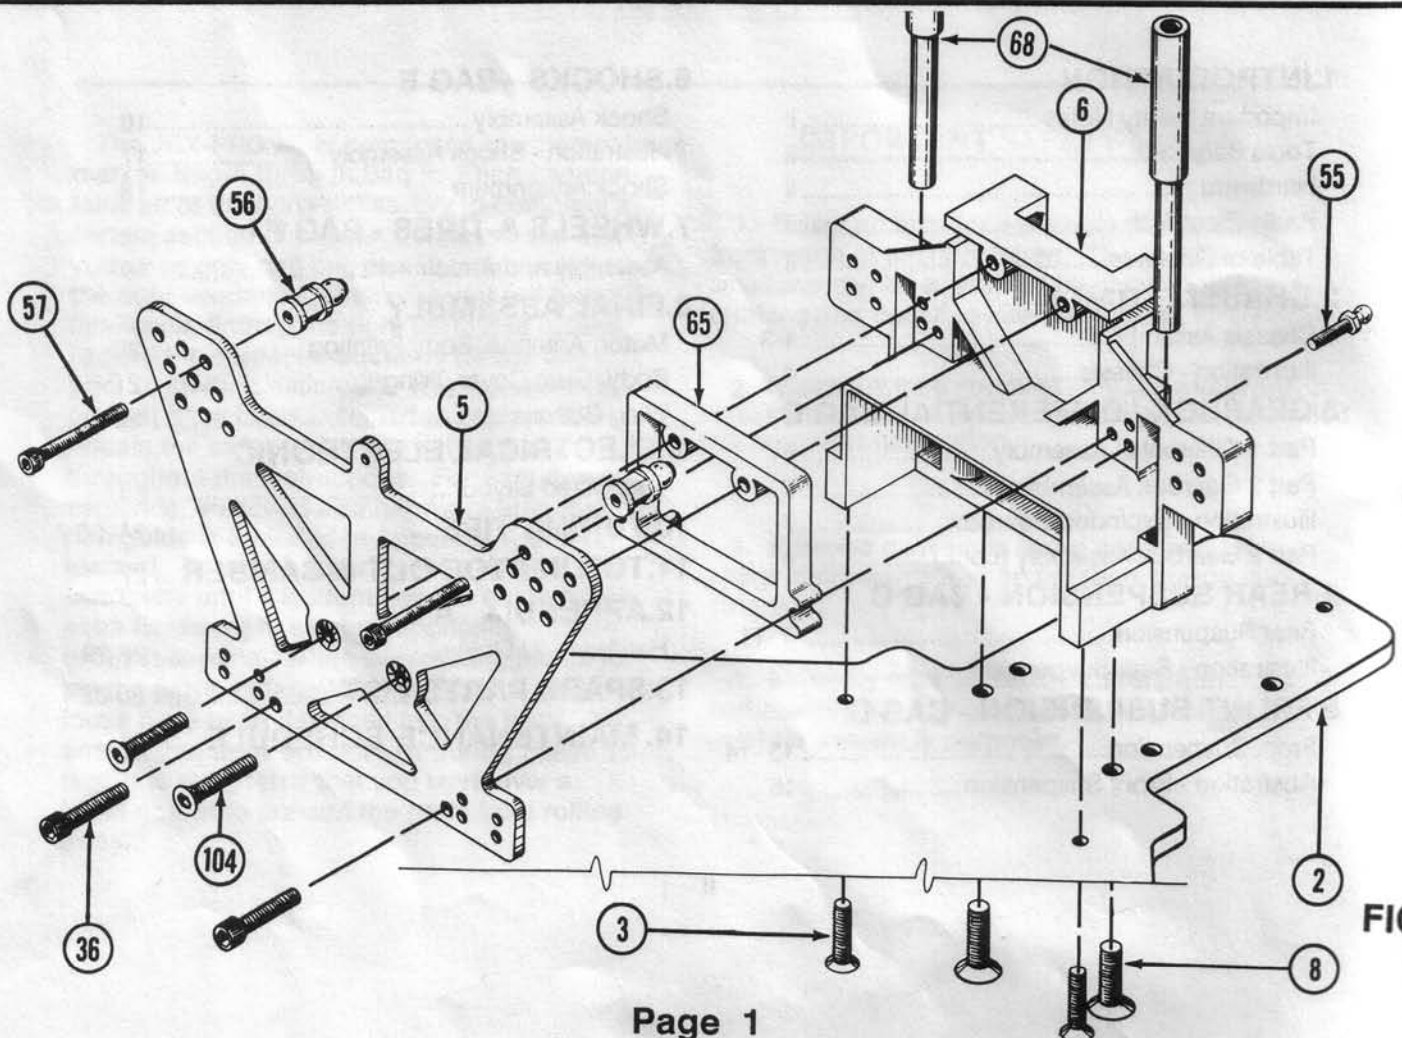

FIG. 2
2. Insert wing tubes (68) into rear bulkhead (6). Fig. 2.
* NOTE: Wing tubes are a tight press fit. . Fig. 2.
3. Secure rear shock tower (5) and shock tower spacer (65) to rear bulkhead (6) using two 4-40 x 1/2" flat head screws (104) in the upper holes and two 4-40 x 1/2" socket head screws (36) in the lower holes. Fig. 2.
4. Connect rear bulkhead (6) to chassis (2) using two 8-32 x 1/2" flathead aluminum screws (8) in the rear, and two 4-40 x 3/8" flathead screws (3) in the front. Fig. 2.
* NOTE: Use caution when screwing in aluminum screws as the heads may strip. Fig. 2.
5. Install 3/8" studded ball joints (55) from the rear into bottom inside holes in rear bulkhead (6). Fig. 2
6. Attach shockmounts (56) to back of rear shocktower (5) in top inside holes using 4-40 x 7/8" socket head screws (57). Fig. 2.